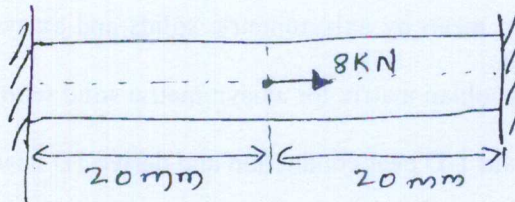

Fig. Q1 (b)
- b. Use Rayleigh-Ritz method to find stress and displacement at the mid point of a bar shown in Fig. Q1 (b). Take $E = 70 \text{ GPa}$; $A = 100 \text{ mm}^2$. Assume the displacement model to be a 2nd order polynomial. (12 Marks)